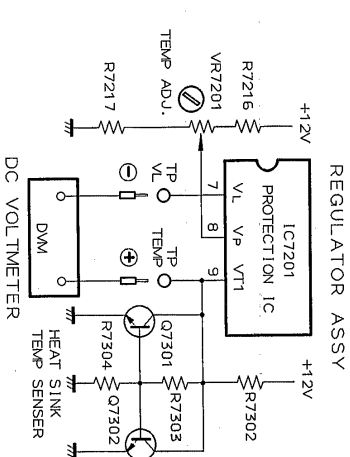

Fig. 2-4 Adjustment of Operating Temperature Setting of Fan Motor
1. Connect a voltmeter between TEMP and VL (or between IC7201 terminals No.7 and 9). (Refer to Fig. 2-4.)